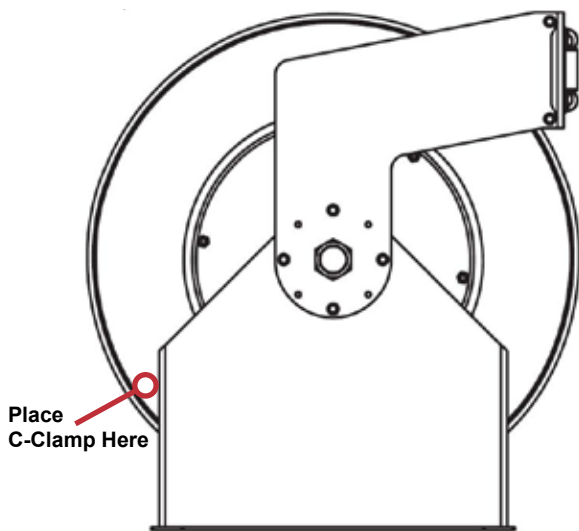

Figure 5
3. Secure spool from accidental rotation by placing a C-Clamp onto the spool. See figure 5 for proper placement of C-Clamp. This will keep the spool from rotating while removing and installing the new service hose.